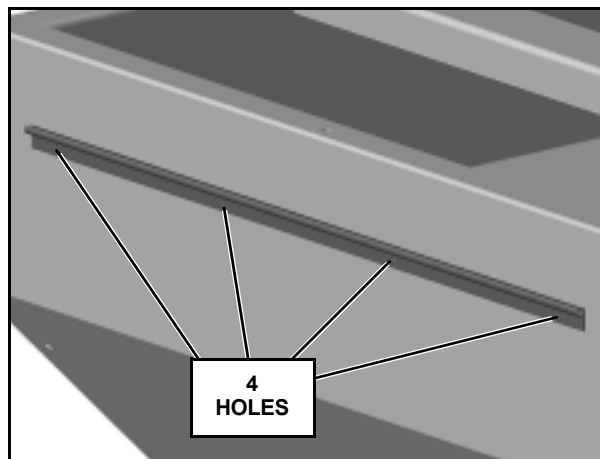

Figure 3
- Mark and drill four 3/16" holes. (See Figure 3.)